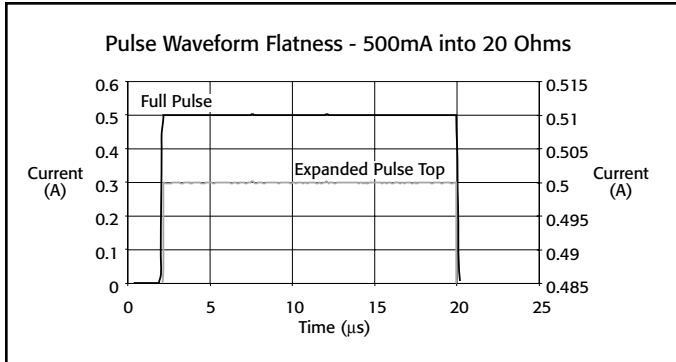

Figure 1
**Figure 1.** This schematic reflects the current testing practices of major laser diode manufacturers. Note that the use of discrete test components increases the integration and programming effort, while severely limiting the flexibility of the test system.
7. Figures 1 and 2 are typical pulse outputs into resistive loads.